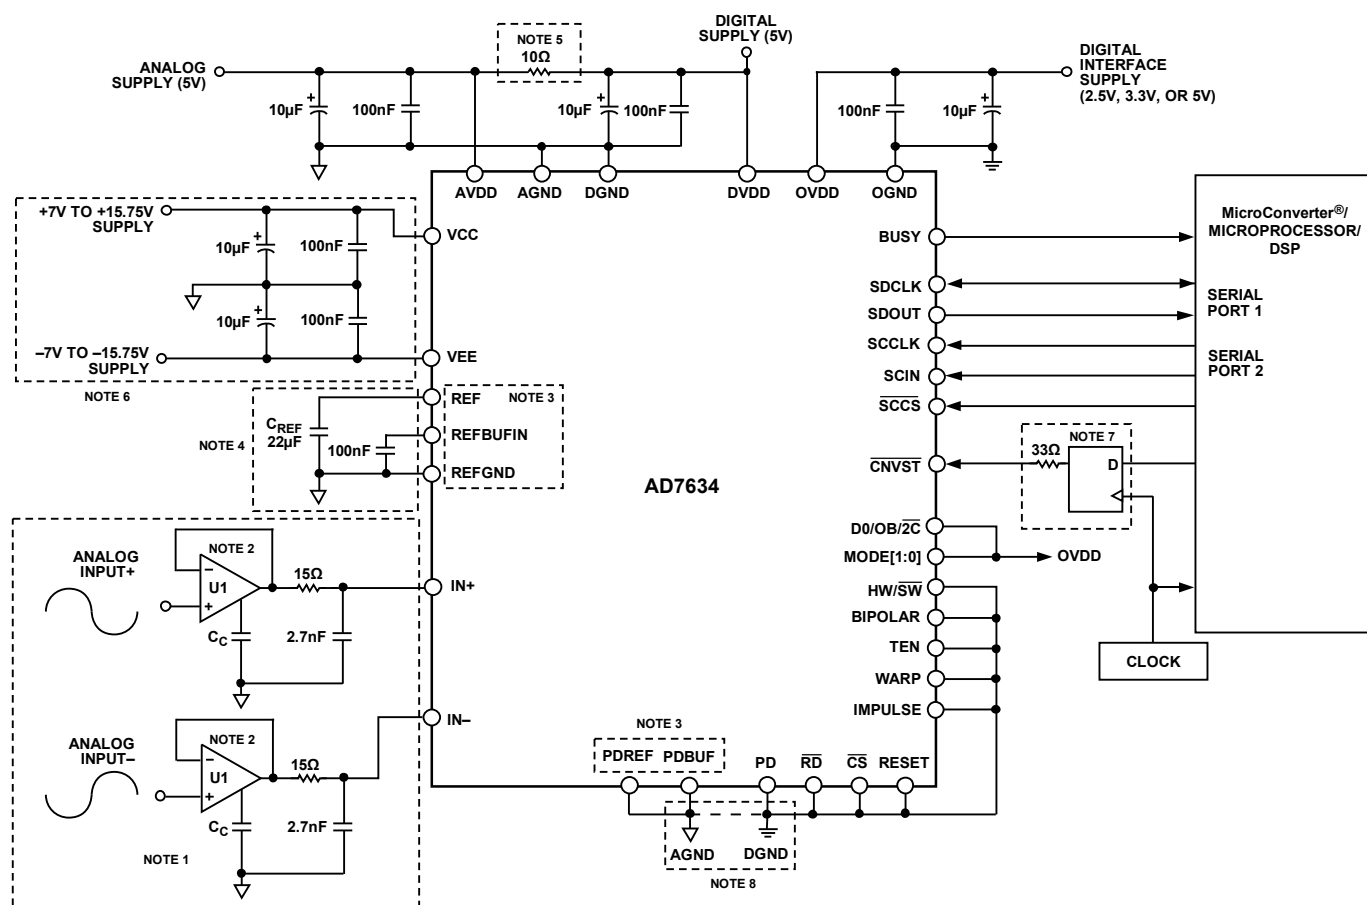
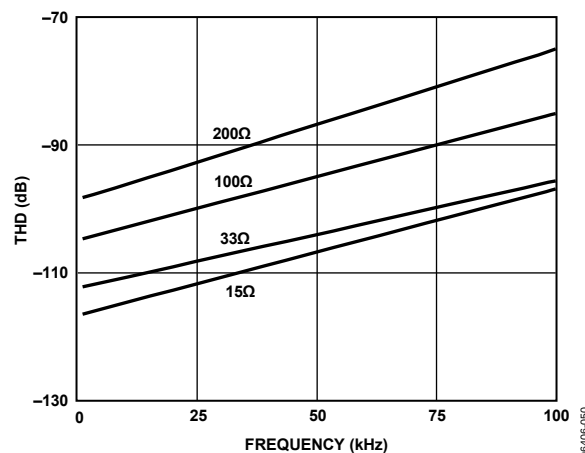

Figure 27. Typical Connection Diagram Shown with Serial Interface and Serial Programmable Port
Figure 30. THD vs. Analog Input Frequency and Source Resistance
Figure 27 shows a typical connection diagram for the AD7634 using the internal reference, serial data interface, and serial configuration port. Different circuitry from that shown in Figure 27 is optional and is discussed in the following sections.
Because the input impedance of the AD7634 is very high, it can be directly driven by a low impedance source without gain error. To further improve the noise filtering achieved by the AD7634 analog input circuit, an external, one-pole RC filter between the amplifier's outputs and the ADC analog inputs can be used, as shown in Figure 27. However, large source impedances significantly affect the ac performance, especially the THD. The maximum source impedance depends on the amount of THD that can be tolerated. The THD degrades as a function of the source impedance and the maximum input frequency, as shown in Figure 30.
- The noise generated by the driver amplifier needs to be kept as low as possible to preserve the SNR and transition noise performance of the AD7634. The noise coming from the driver is filtered by the external 1-pole low-pass filter, as shown in Figure 27. The SNR degradation due to the amplifier is
The AVDD and DVDD supply the AD7634 analog and digital cores, respectively. Sufficient decoupling of these supplies is required consisting of at least a $10\text{ }\mu\text{F}$ capacitor and a 100 nF capacitor on each supply. The 100 nF capacitors should be placed as close as possible to the AD7634. To reduce the number of supplies needed, the DVDD can be supplied through a simple RC filter from the analog supply, as shown in Figure 27.